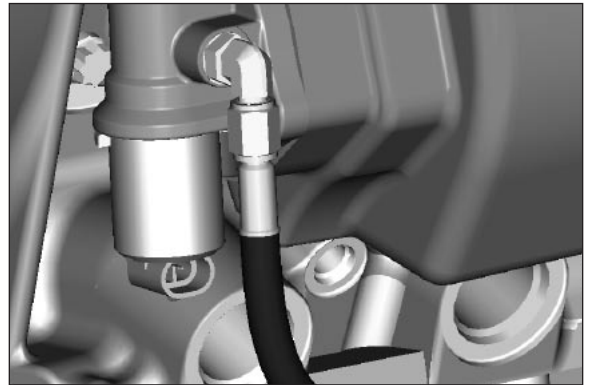

Fig. 9
- Securely attach the high pressure line to the valve. Tighten hose end fitting 2 flats from finger tight (**Fig. 9**).